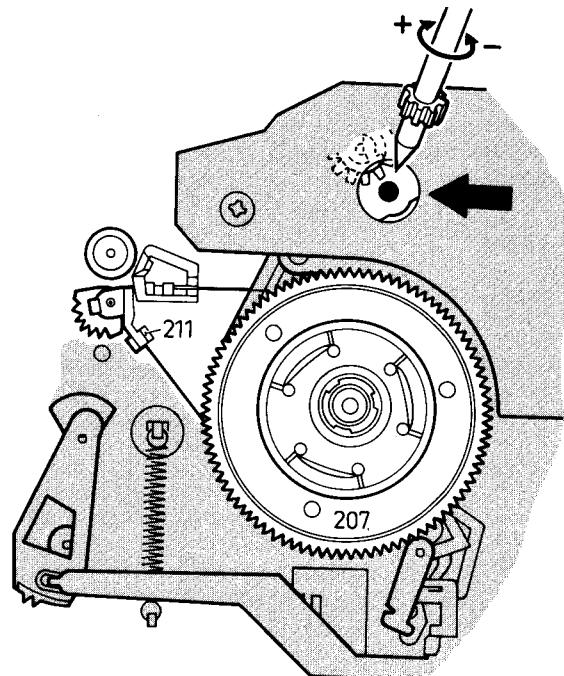

Fig. 2-2
**Note:** If you can see a cog through the hole adjust this supply reel friction using special tool turning the tool clockwise increasing the friction (Fig. 2-2).